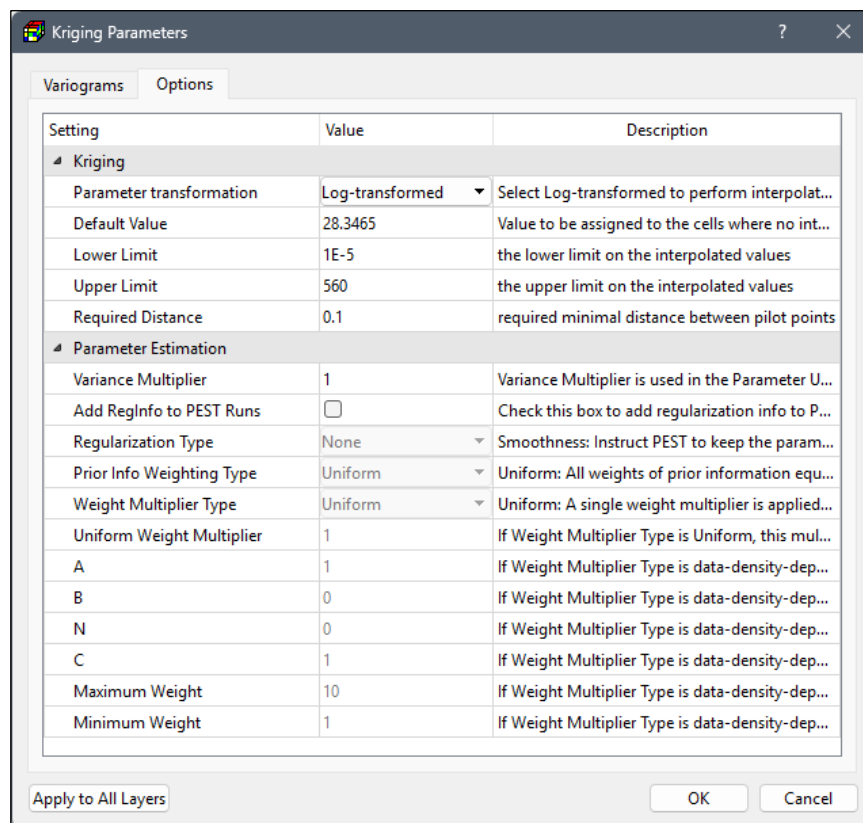

Figure 31. The Options tab of the Kriging Parameters dialog box
- Select *None* to indicate that the pilot points may be adjusted during parameter estimation. See *Parameter transformation* in Figure 31 for further details.
Integration with PEST is controlled via the Parameter Estimation section on the Options tab (Figure 31).
2. Options Tab (Figure 31)